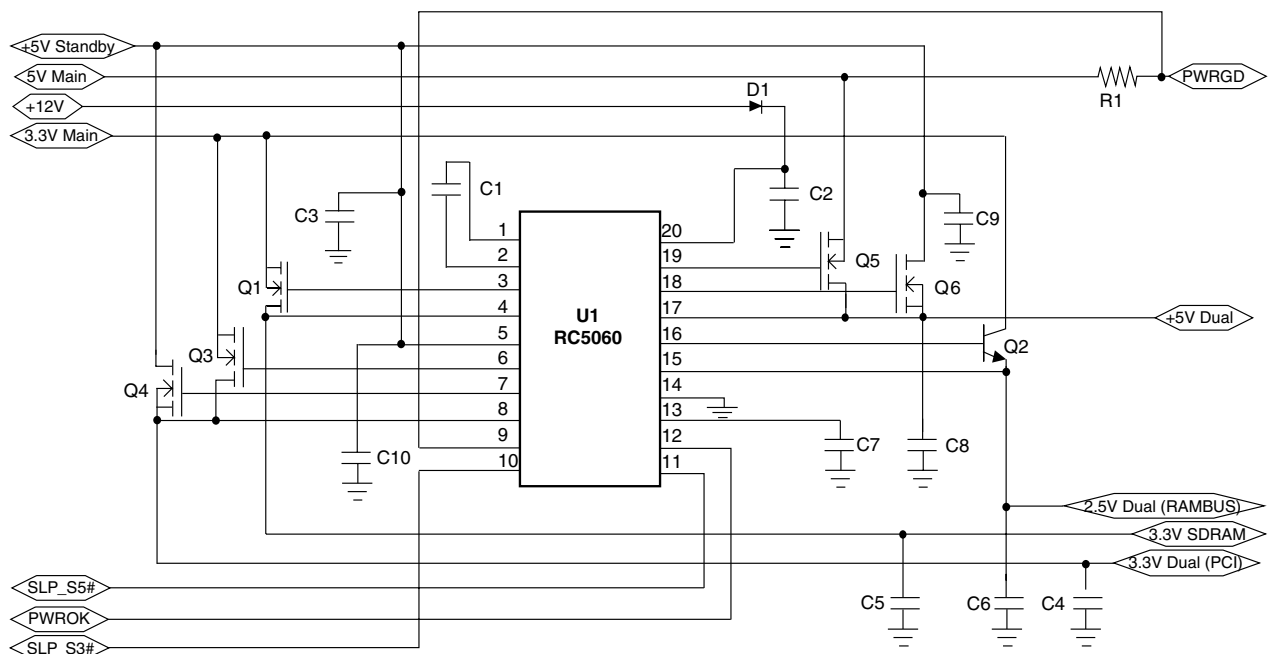
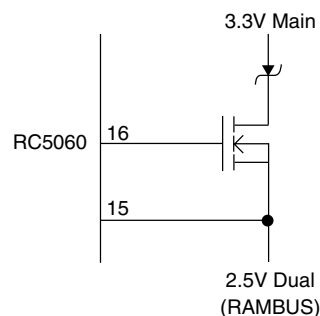

Figure 4. Camino ACPI Selector
Figure 8. 2.5V Dual with MOSFET
($V_{+5VSTBY} = V_{+5VMAIN} = 5V$, $V_{+3.3V} = 3.3V$, $V_{+12V} = 12V$ and $T_A = +25^{\circ}C$ using circuit in Figure 4, unless otherwise noted.)
5V dual is generated by two MOSFET switches, one from +5V main, the other from +5V standby, as shown in Figures 4 or 5. When main power is present, the first switch is on and the second off, and the opposite when main power is absent. Note carefully the polarity of the MOSFET Q5 that delivers power from the +5V main to the 5V dual: opposite to the connection of Q6, the source is connected to the +5V main input, and the drain is connected to the 5V dual output. This connection must be done this way because of Q5's body diode. When +5V main is not present, 5V dual is still on, and if Q5 were connected with the same polarity as Q6, the dual voltage would conduct through the body diode of Q5, attempting to power up the entire +5V main line. It is to avoid this overload that Q5 must be connected as shown.
3.3V dual is generated by two MOSFETs, one from +3.3V main, the other from +5V standby, as shown in Figures 4 or 5. When main power is present, the MOSFET Q3 is turned on as a switch, so that input and output are connected together. When main power is absent, the MOSFET Q4 is controlled by the RC5060 as a linear regulator, generating a regulated 3.3V from +5V standby. As with the 5V dual, the MOSFET Q3 must be connected as shown in the figures, to avoid back-feed.
3.3V SDRAM is generated by one external MOSFET switch from +3.3V main, and one linear regulator internal to the RC5060 from +5V standby, as shown in Figures 4 or 5, and in the block diagram on the front page. When main power is present, the MOSFET Q1 is turned on as a switch, so that input and output are connected together. When main power is absent, the internal linear regulator is on, generating a regulated 3.3V from +5V standby. As with the other duals, the MOSFET Q1 must be connected as shown in the figures, to avoid back-feed.
2.5V dual is generated by one external NPN bipolar acting as a linear regulator from +3.3V main, and one linear regulator internal to the RC5060 from +5V standby, as shown in Figure 4, and in the block diagram on the front page. When main power is present, the NPN Q2 linear regulates, and when main power is absent, the internal linear regulator is on. Q2 cannot be substituted with a MOSFET. If used in one direction, the MOSFET's body diode would permit back-feed; if used in the other direction, it would short-circuit the linear regulator action.
In main power operation, the RC5060 is run from the +12V main supply. This supply also provides voltage to the various MOSFET gates. However, during standby, this supply is off. To provide power to the chip and the appropriate gates, the RC5060 incorporates a free-running charge pump. As shown in Figures 4 and 5, and in the block diagram on the front page, a capacitor attached between pins 1 and 2 of the RC5060 acts as a charge pump with internal diodes. The charge pump output is internally diode or'ed with the 12V input. The 12V input must have a series diode to prevent back-feeding the charge pump to the +12V main when in standby. The 12V input line needs a bypass capacitor for high-frequency noise rejection.
Instead of the bipolar transistor shown in Figure 4 for Q2, the linear pass element for the 2.5V dual for RAMBUS, a MOSFET and schottky diode can be used as shown in Figure 8.